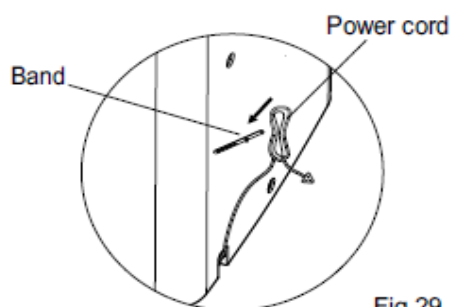

Fig.29
- Wrap the power cord and bundle it with the tape (Fig.29).